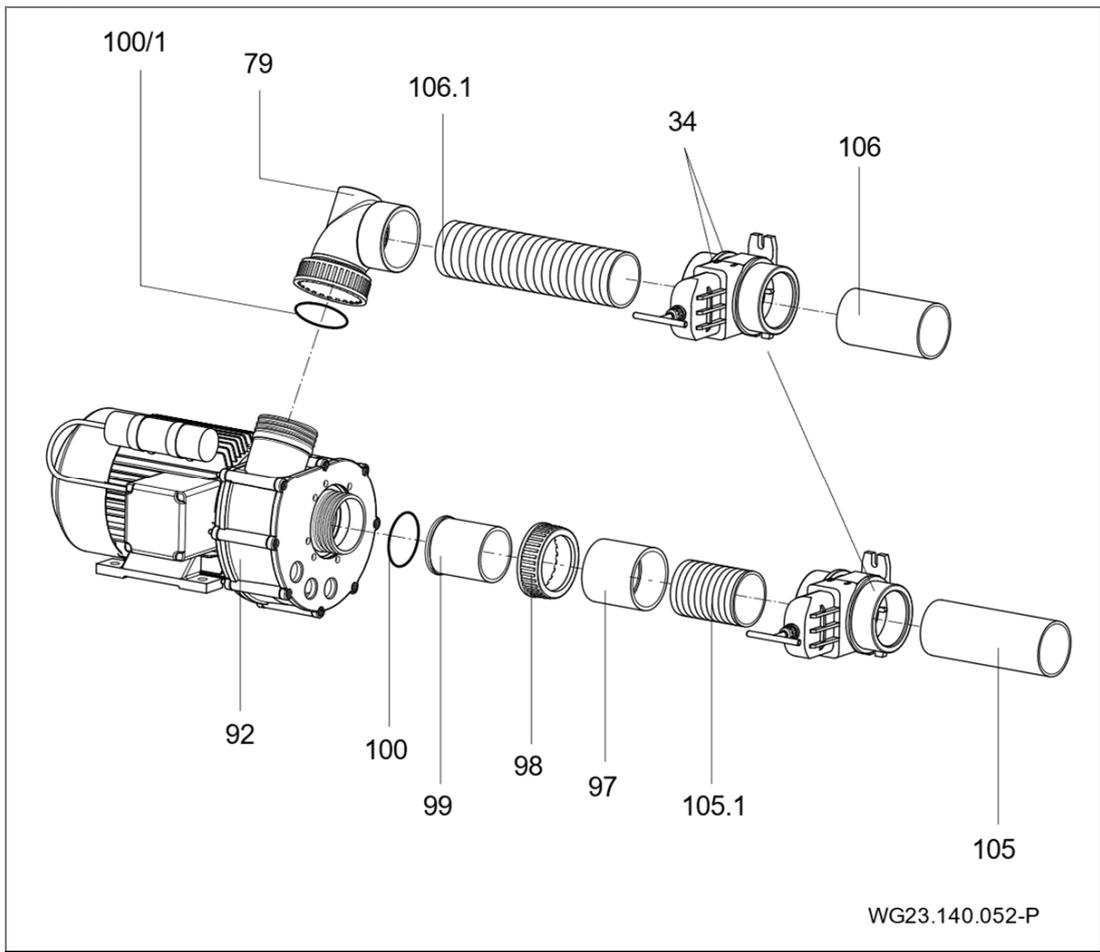

Fig. 21
- 13. Primavera: Mount the cap for the volume (21/1) and air regulator (111) by means of a rubber mallet and a protective cloth. (Fig. 21)